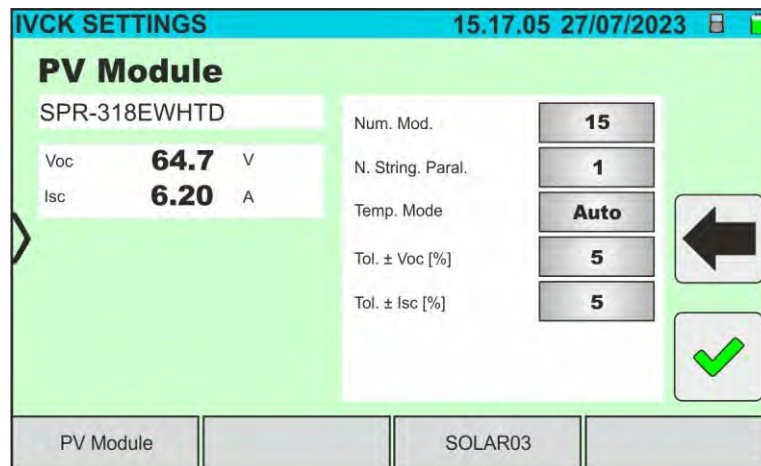

Fig. 55: I-V curve measurement parameter settings
6. Tap on the "**Settings**" key (Monofacial module reference). The following screen is shown in Fig. 55. The following parameters are given: